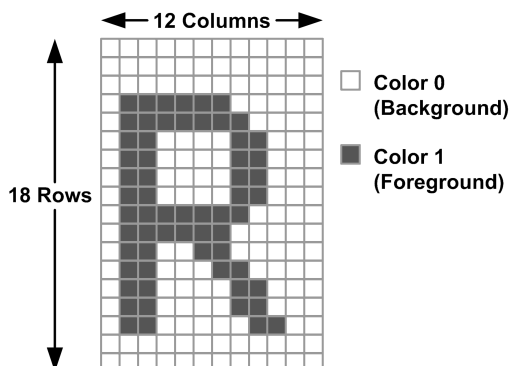

Figure 14. Two-Color Character
1. Two-color: There are a total of 384 two-color characters in 6 banks (banks 0, 1, 2, 4, 5 and 6). Each pixel of these characters is defined by a single bit value. If the bit value is 0, then the color is defined as “Color 0” or the “background” color. If the bit value is 1, then the color is defined as “Color 1”, or the “foreground” color. An example of a character is shown in Figure 14. The grid lines are shown for clarity to delineate individual pixels and are not part of the actual displayed character.